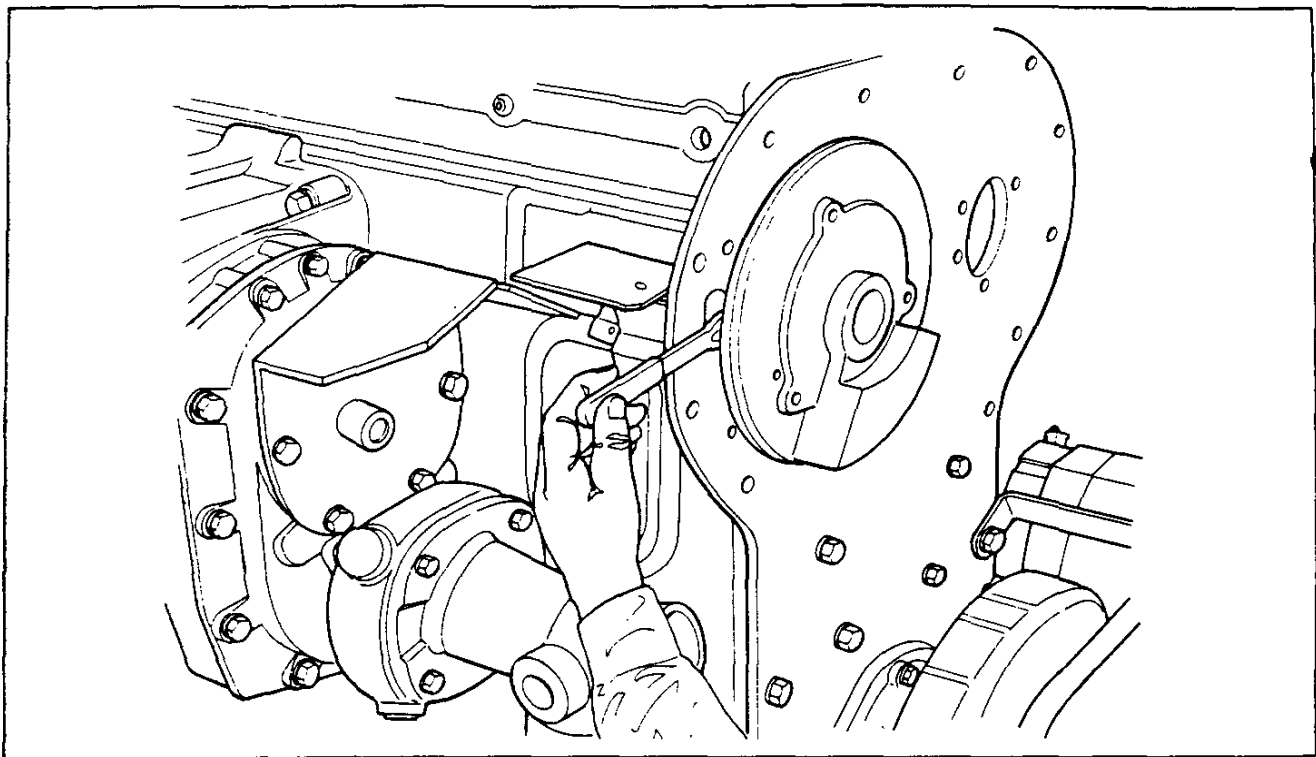

Figure 16F
2. Insert the SRS/TRS Timing Tool between the double teeth on the Pulse Wheel, and the TRS so that the groove at the rear of the tool slides over the teeth in the Pulse Wheel as shown in Figure 16F.